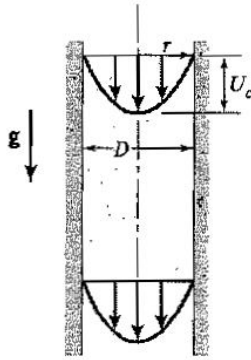

Figure P8.41
8.41 Water of density ρ and viscosity μ flows steadily vertically down a circular tube of diameter D , as shown in Figure P8.41. The flow is fully developed, and it has a parabolic velocity profile given by